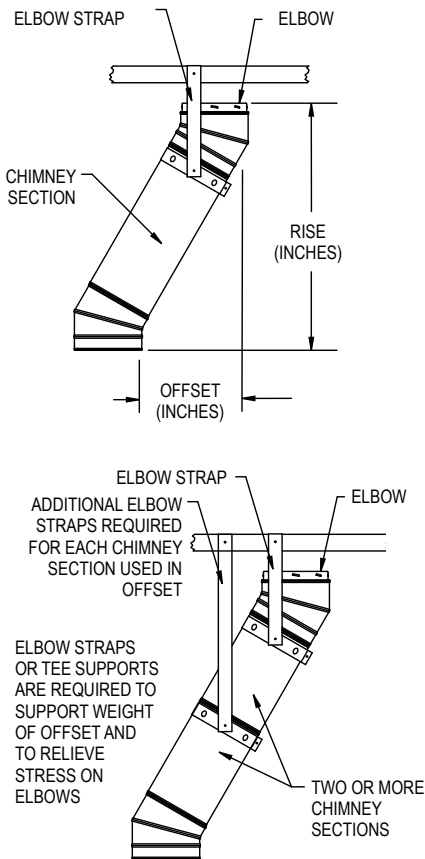

Figure 17
1. Attach Elbows: Attach Elbow to Chimney Section or other Elbow by twisting clockwise until they lock firmly. Attach one Elbow to the Chimney Section below, and align it for the offset. Elbows for DuraTech have a swivel feature that allow for 360° rotation at their base for ease of installation. Refer to **Table 3** to determine the required offset length and attach an appropriate length (or lengths) of Chimney Section(s) above the Elbow. Important: For each chimney pipe section in the offset (between the elbows), there must be an Elbow Strap, Tee Support, or similar support method to support the weight of the pipe and to relieve stress on the Elbows. Attach the second Elbow above the Chimney Section to complete the offset (**Fig. 17**).
2. Secure Offset: Place the Elbow Strap's band around the angled portion of the top Elbow, then tighten the nut and bolt until the clamp is firm. There are both dedicated diameter, and Universal components available, Wrap the Elbow Strap end over an adjacent joist or rafter and secure it with at least (2) 8-penny nails or (2) #8, 1-1/2 screws. Do not
add more Chimney Sections until the Elbows are supported. Be sure that the chimney remains vertical. If there is more than one Chimney Section between the Elbows, install a second Elbow Strap around the joint of the two Chimney Sections (**Fig. 17**).